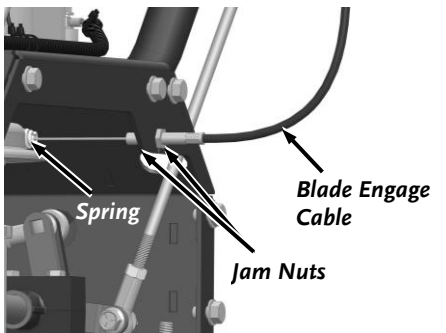

Figure 61
3. Adjust the Jam Nuts as needed to remove and slack in the cable without putting any tension on the Spring (**Figure 61**).